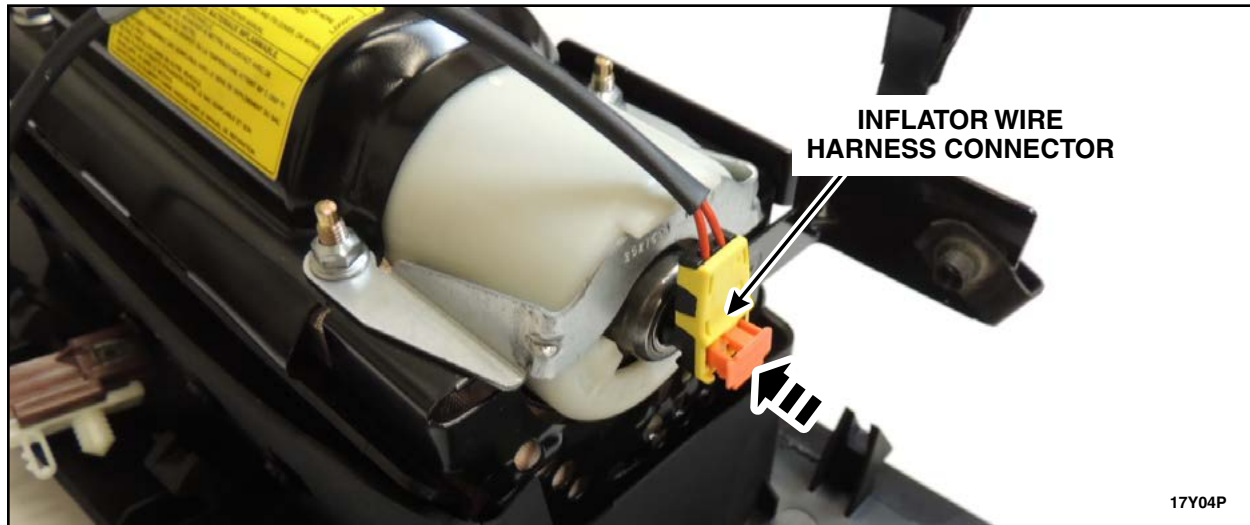

FIGURE 16
14. Align the T-shape index on both the wiring harness electrical connector and the airbag inflator, connect the *new* airbag wiring harness to the inflator module and fully seat the orange tab. See Figure 16.
15. Ensure the connection between the wiring harness electrical connector and the airbag inflator by pulling gently on the wiring harness to ensure it is properly seated. See Figure 16.